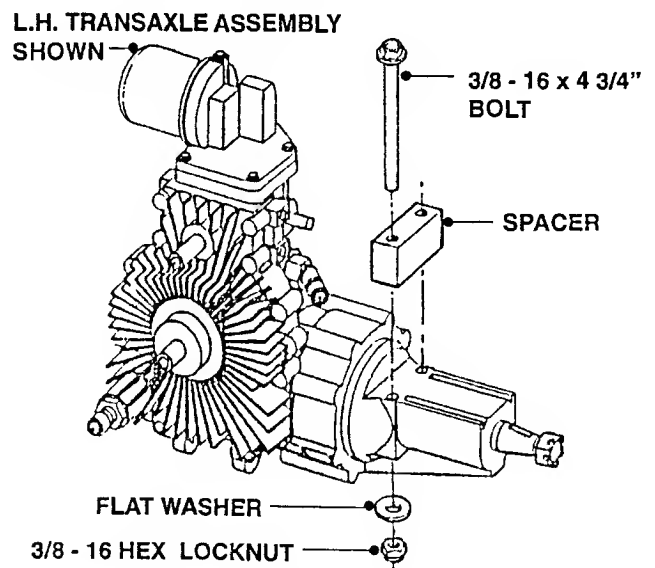

FIGURE 5.13
- K. While supporting the Transaxle Assembly in a safe manner, separate it from the Unit by removing the 3/8 - 16 Hex Locknuts, Flat Washers and 3/8 - 16 x 4 3/4" Bolts and Transaxle Spacers. See Figure 5.13. Transaxle Assembly is now ready for repair or replacement.